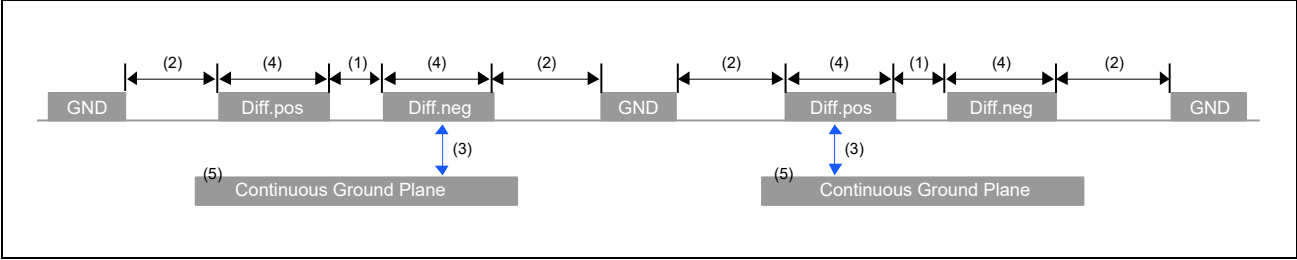

Figure 1.2 Signal Trace Example 1
Between Diff. and GND shields $\geq S$ Note: Place GND shields on both sides of Diff.	(2) in Figure 1.2
Between Diff. and Continuous Ground Plane $\geq S$	(3) in Figure 1.2
Line width $\geq S$	(4) in Figure 1.2